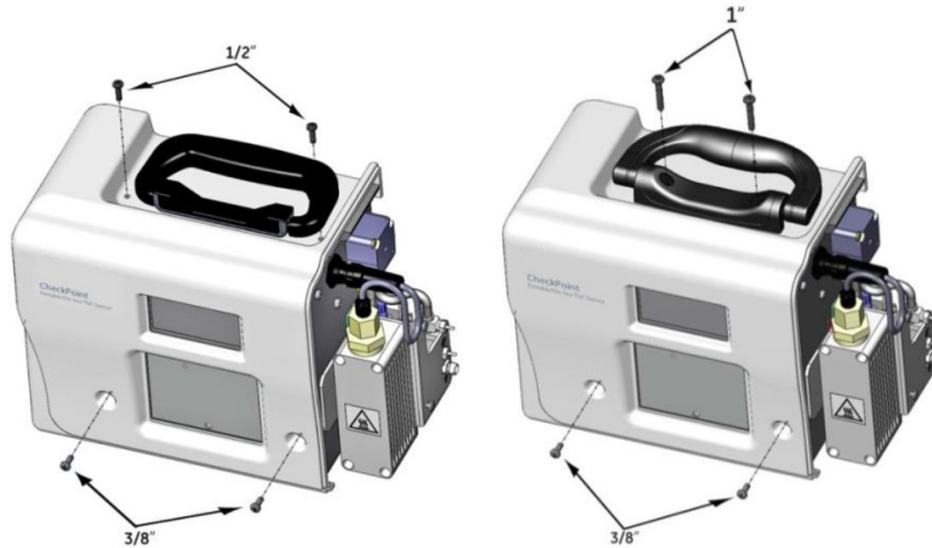

Figure 5: Cover Screw Sizes and Locations
3. Remove the main cover by loosening the four screws (two on front, two on top; top screws are longer as shown in Figure 5: Cover Screw Sizes and Locations).